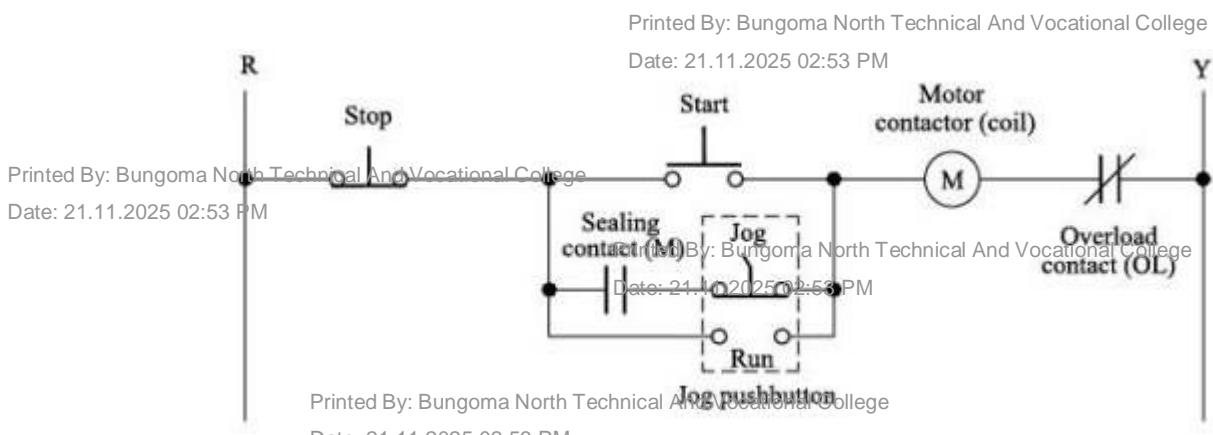

Figure 3
a) Draw a PLC connection diagram for the system shown in Figure 3, showing all the inputs and outputs. (10 marks)
b) Draw a ladder diagram for the system shown in Figure 3. (10 marks)